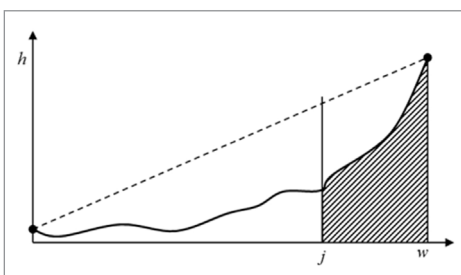

Figure 18. Selection of filter width from peak estimates.
- These points are then sorted according to their width (w) and a line connecting the point with the smallest width to the one with largest width is constructed as shown in Figure 18. The point with largest deviation below this line is identified (j) and all smaller points are ignored as these points are probably related to signal noise. The mean width weighted by height (h) is computed for the remaining points (shaded area Figure 18).